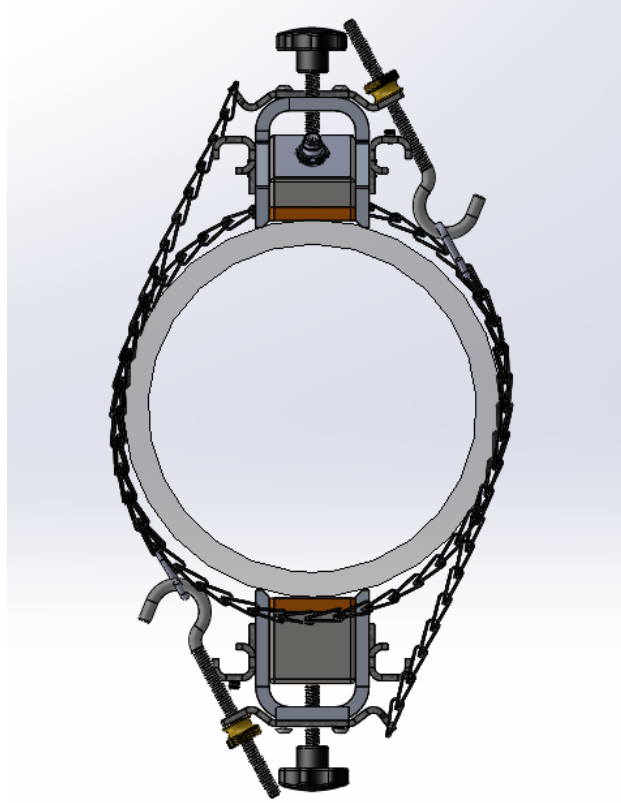

Figure 2-6. Opposite Side Transducer Installation, Front View
8. Position the second transducer mounting clamp on the pipe at the location determined by the flow meter and 180 degrees around the pipe from the first one. See Figure 2-6, 2-7, and 2-8 for reference.